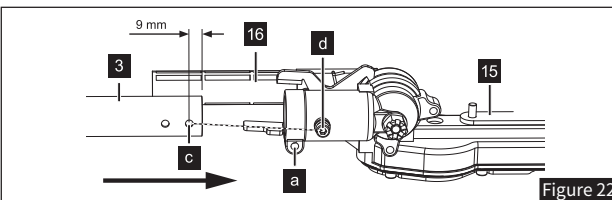

Figure 22
- Loosen and remove the screw (Figure 22, Item d).
- Align the holes (Figure 22, Item c) until they are flush.
- Position the hedge trimmer (Figure 22, Item 15) onto the connecting rod (Figure 22, Item 3) as shown in Figure 22.
- Fully tighten the mounting screw (Figure 22, Item a) to lock the hedge trimmer securely in place.